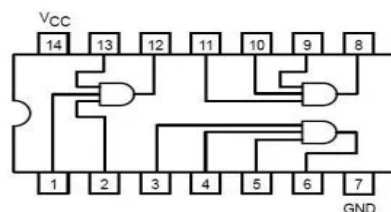

Figure-2: Quad Triple input AND gate 74LS/HC 11
I used a signal generator and connected its positive knob to CP of 74HC/HCT163, and negative knob to ground. I also used a DC power supply, and connected it to positive and negative sides of my breadboard. Additionally, I connected Vcc(16) to positive, GND(8) to negative. I connected Q0, Q1 and Q2 with 1K ohm resistors and green leds to represent outputs of 74HC/HCT163, also inputs of AND gate. Additionally, after connecting the terminals of those leds to AND gate, I also used figure-2 on last part, connected negative sides of outputs from 74HC/HCT163 to (1),(2) and (13), and output for (12). I used 1K ohm resistor again and added a final red LED to represent output of the circuit. (Its longer side to positive-connected to resistor, shorter side to ground). Finally, after providing DC 5V from power supply and 1Vpp 1kHz signals from signal generator, I observed the results below.